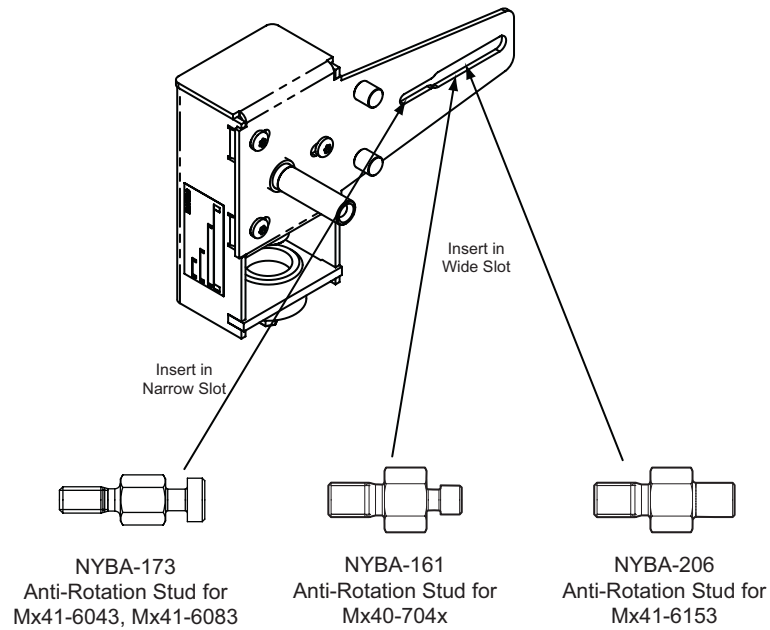
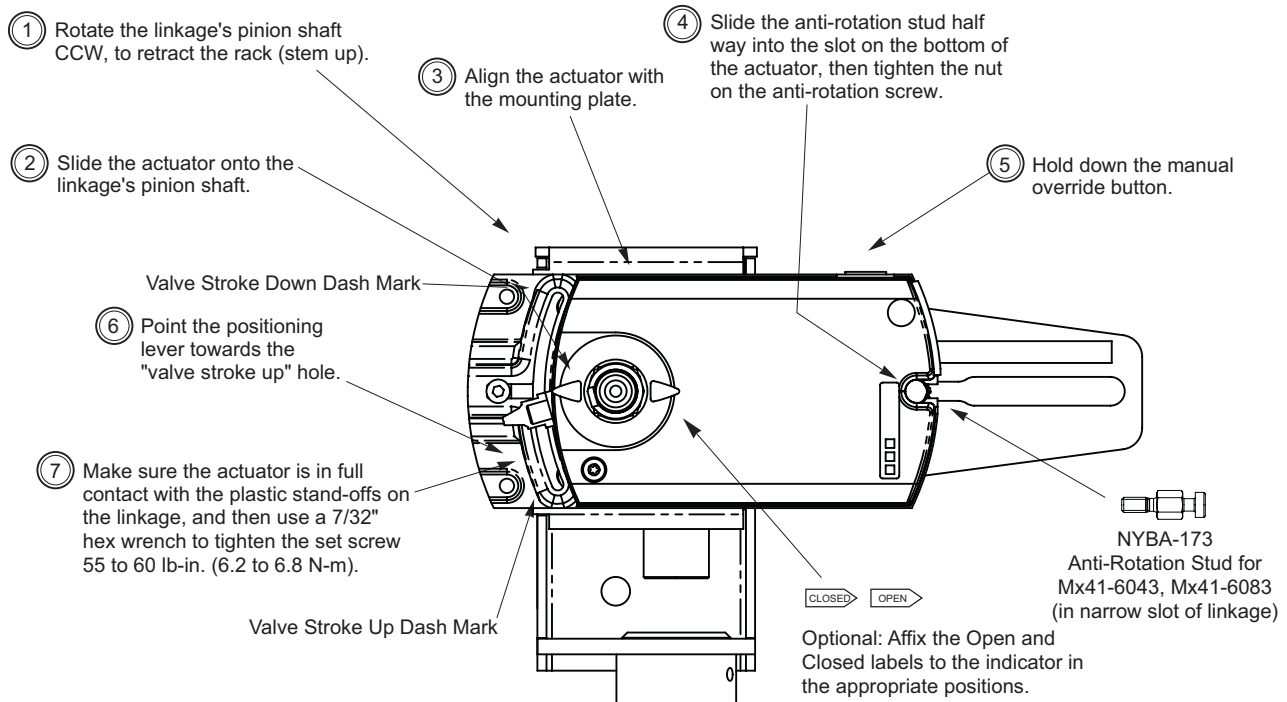
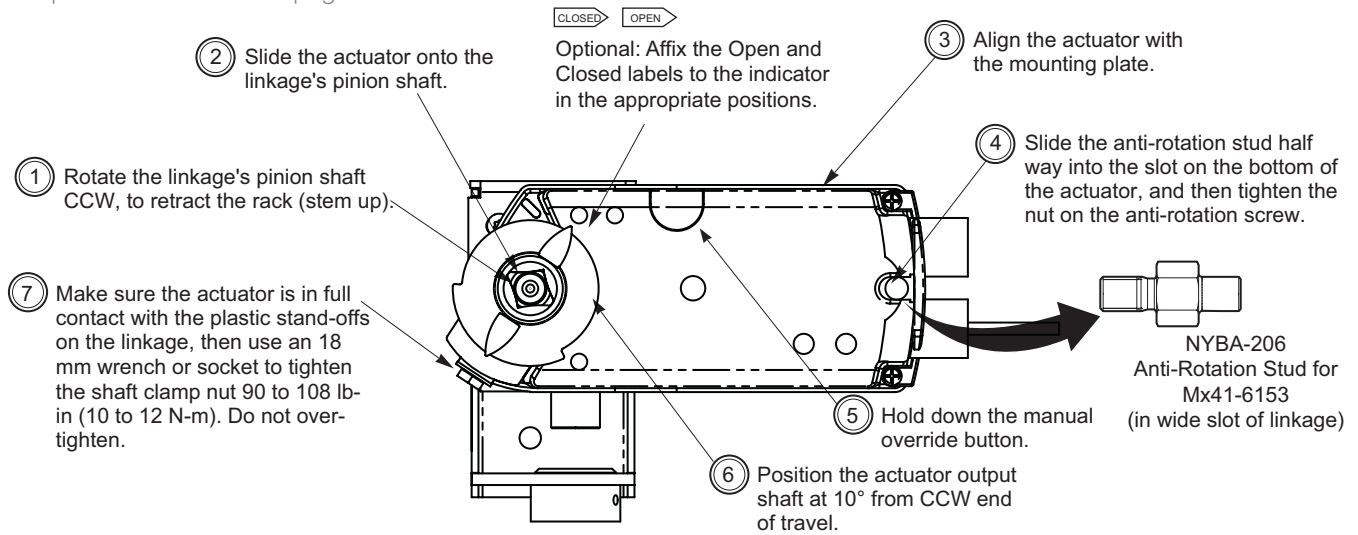

Figure-1 Anti-Rotation Studs.
Figure-3 Mounting Mx41-6043 and Mx41-6083 Actuators and Setting Up Actuator/Linkage/Valve Assembly
Figure-4 Mounting Mx41-6153 and Setting up Actuator/Linkage/Valve Assembly.
1. If necessary, remove unused anti-rotation studs from linkage (see Figure-1 on page 3)
1. Confirm that the NYBA-173 anti-rotation stud is installed in the narrow slot of the linkage (refer to Figure-1 on page 3). Install the actuator onto the linkage and valve and set up the assembly as shown in Figure-3.
1. Confirm that the NYBA-206 anti-rotation stud is installed in the wide slot of the linkage (refer to Figure-1 on page 3). Install the actuator onto the linkage and valve, and set up the assembly, according to Figure-4 below.
1. Confirm that the NYBA-161 anti-rotation stud is installed in the wide slot of the linkage (refer to Figure-1 on page 3). Install the actuator onto the linkage and 2-way valve, and set up the assembly, according to Figure-5 below.
1. Confirm that the NYBA-161 anti-rotation stud is installed in the wide slot of the linkage (refer to Figure-1 on page 3).